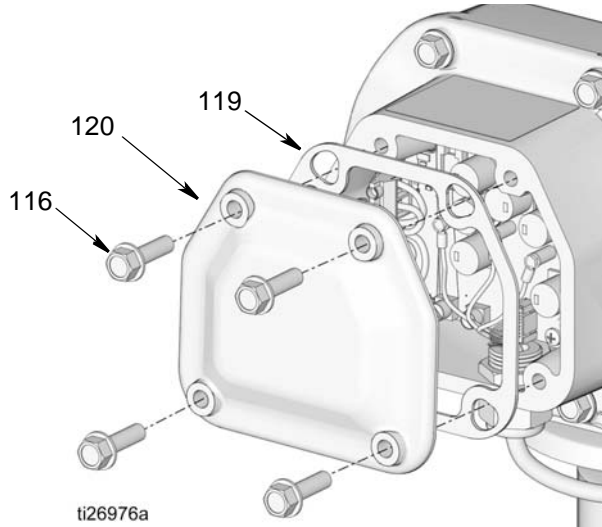

FIG. 72
5. Replace motor control board gasket (119) and cover (120) with screws (116) (FIG. 72) being careful not to pinch any wires. Tighten screws securely. Torque to 17 - 19 ft lbs (23 - 25 N.m).